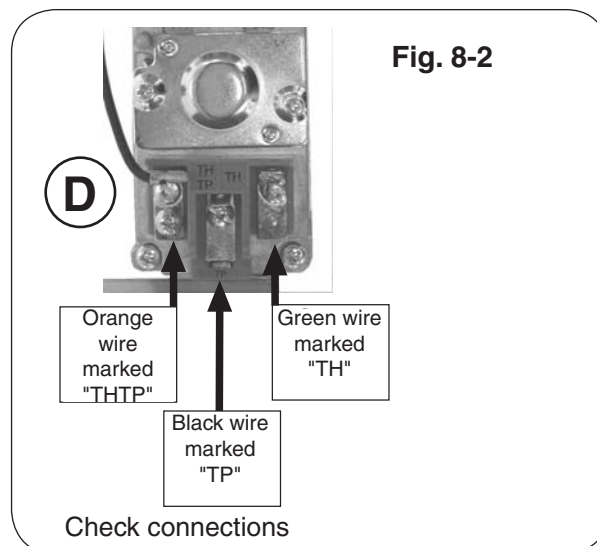

Fig. 8-2
4. Check the connections of the wires to the EPK-1(M)(P) valve (see Fig. 8-2):